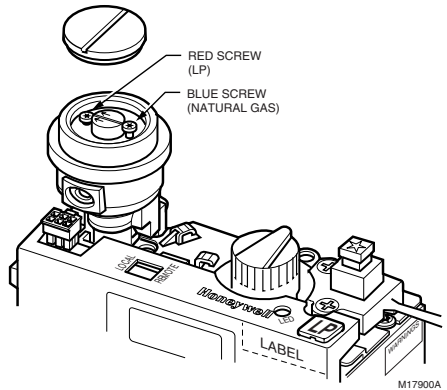

Fig. 1. RV8310E Millivolt Receiver/Modulating Gas Valve, showing motor cover removed and location of conversion plug and conversion label.
2. Remove the motor cover (see Fig. 1).
5. Remove the natural gas (NG) fuel conversion plug and insert the LP fuel conversion plug.
- Remove the motor cover (see Fig. 1).
- Remove the LP fuel conversion plug and insert the natural gas (NG) fuel conversion plug.